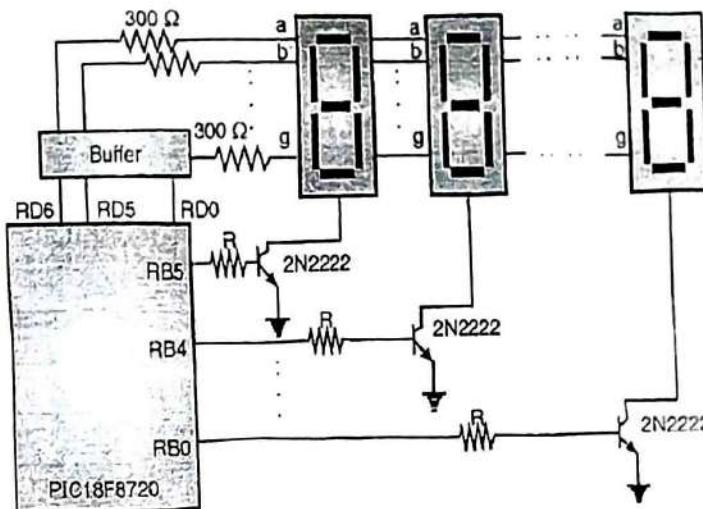

Fig. 7.4.5 : Port B and Port D together drive six seven-segment displays
- Fig. 7.4.5 shows the common cathode type of seven-segment display connected to the collector of the NPN transistor. When a pin of port B is logic high, the connected NPN transistor will be driven into the saturation region, allowing the display to be lighted.
- (b) On LSB the seven-segment display shown in Fig. 7.4.5.
- (b) To display the value 5 on the LSB seven-segment display (shown in Fig. 7.4.5) the following things need to be done: